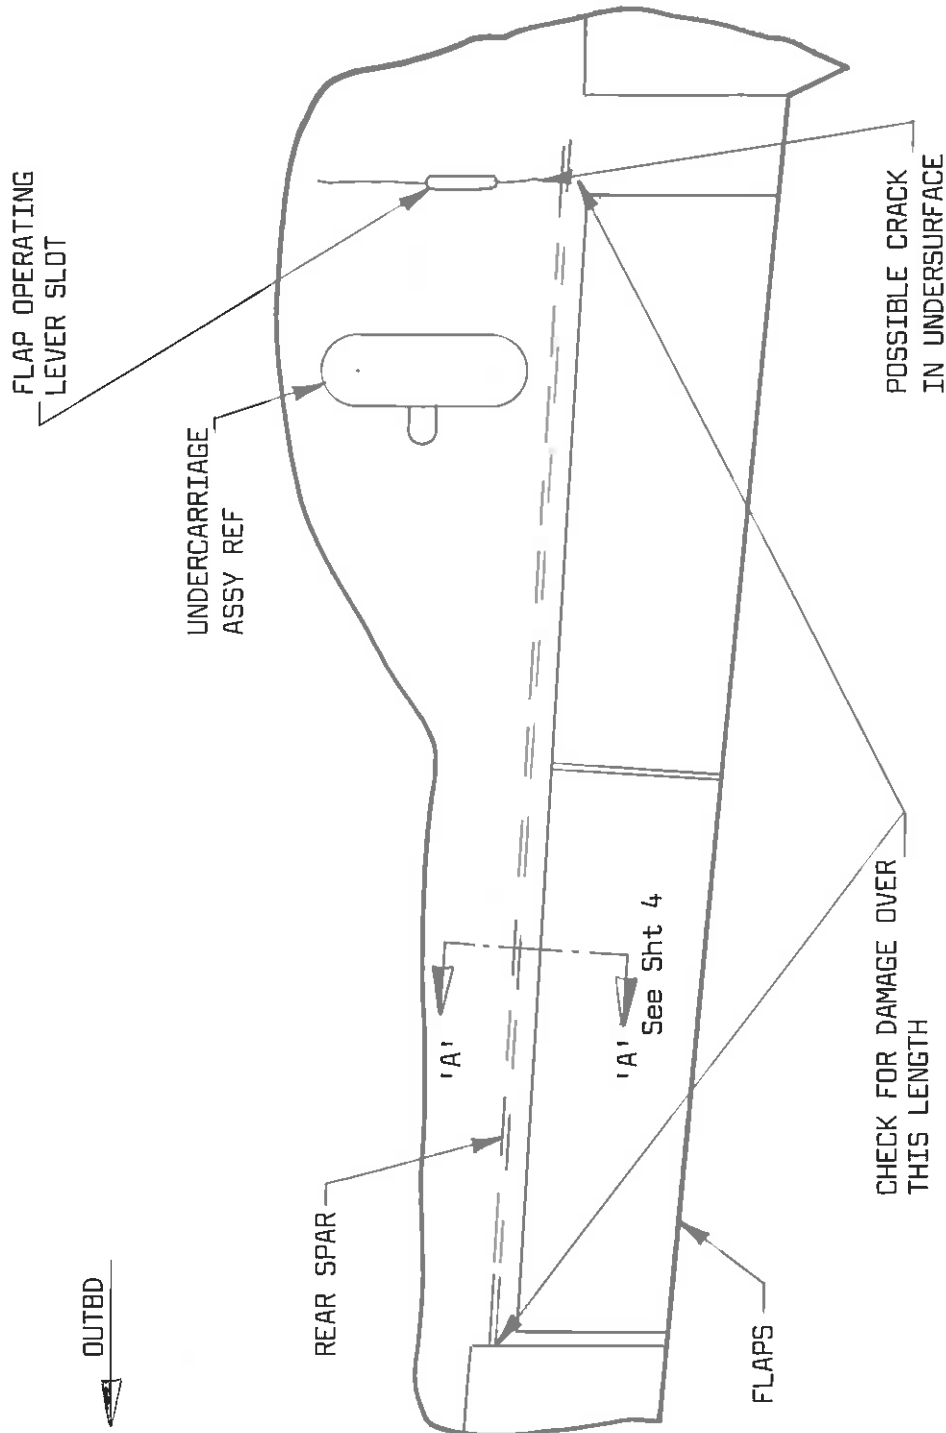

FIG 1
- i) Clean and inspect all of rear spar and supporting structure in area of flaps for cracks in paint finish and defective structure. Ref. Fig. 1.